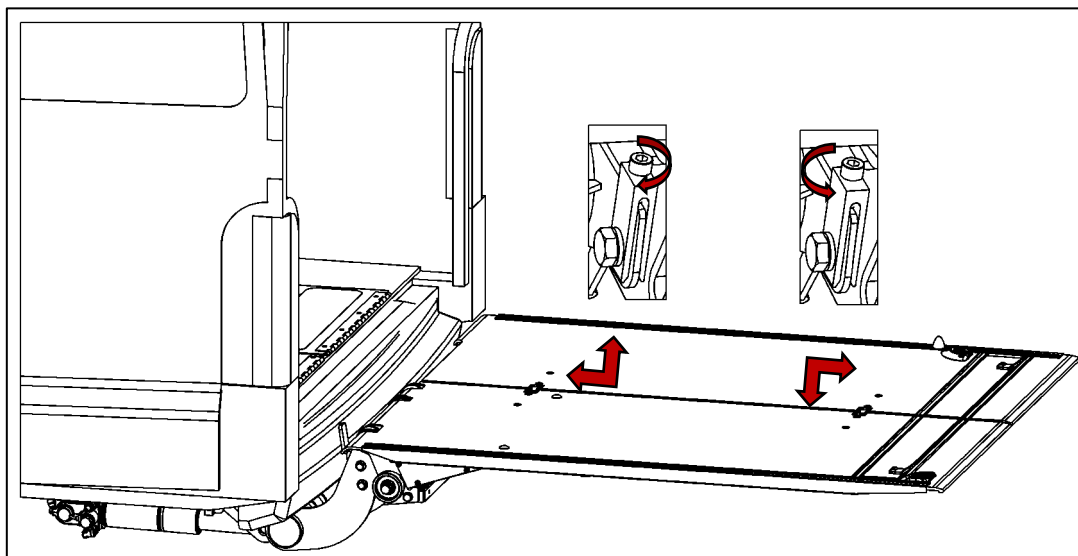

Fig. 71
- Loosen the hex bolt (3).
- Rotate the adjustment screw (1) to the left or right.
- Rotating the adjustment screw (1) to the right moves the right side of the platform closer to the vehicle chassis. This slightly lifts the platform on the right side of the vehicle (see Fig. 71).
- Rotating the adjustment screw (1) to the left moves the right side of the platform away from the vehicle chassis. This slightly lowers the platform on the right side of the vehicle (see Fig. 71).